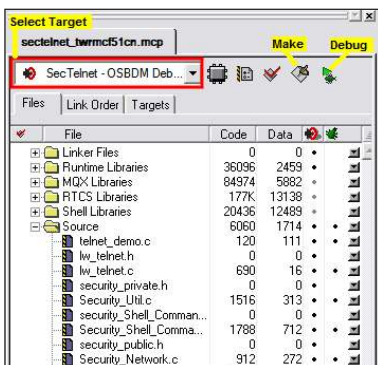

Figure 2: Project Loaded in the CodeWarrior IDE
8. In the project pane, select the “SecTelnet - OSBDM Debug Int Flash” build target. See Figure 2.
10. Open the Security.h file in the CodeWarrior window. Double-click the file item located in the “Source” group in the CodeWarrior project tree. See Figure 2.